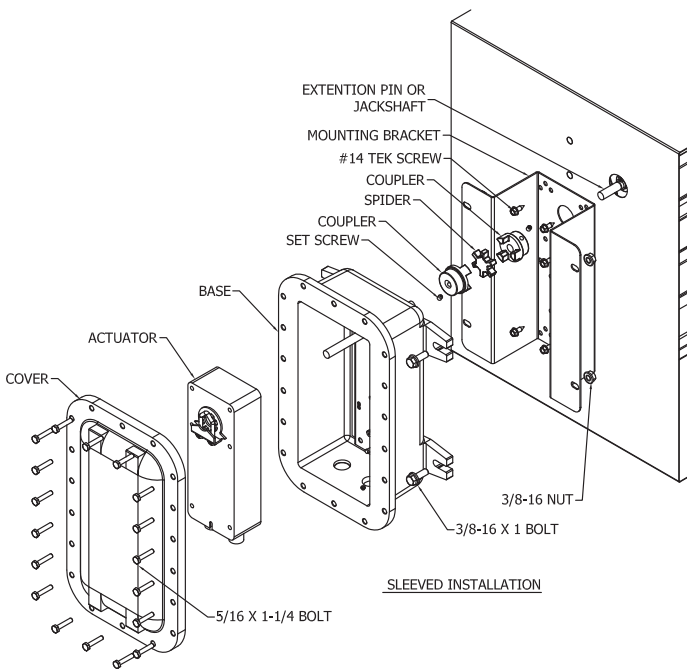

Figure 2: Mounting on a Sleeve
2. Install mounting bracket onto sleeve or jackshaft bracket using #14 Tek screw (Figure 2 or 3).